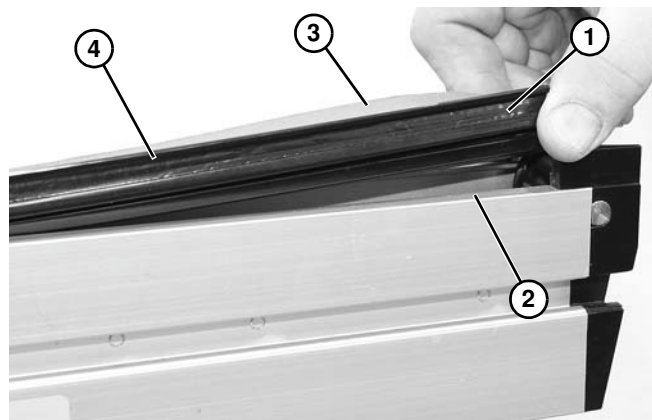

Figure 7
3. Install the bedstrip (**Figure 7, item 1**) between the conveyor (**Figure 7, item 2**) and belt (**Figure 7, item 3**). Make sure that the high side (**Figure 7, item 4**) faces out and snap bedstrip into place.